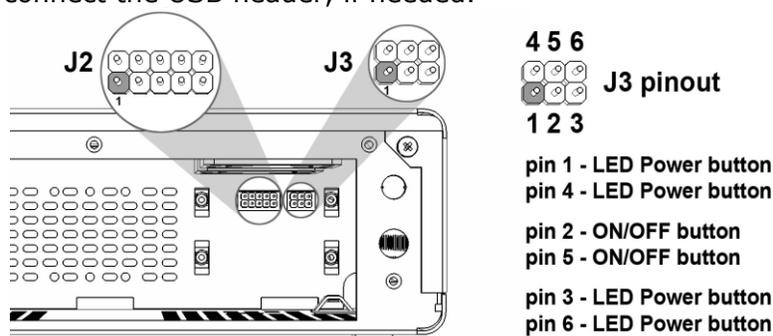

Figure 28. J2 (USB Header) and J3 (2x3) pin header, view from the back of Enclosure
4. Connect the ON/OFF and Power LED cables (J3 in Figure 28) to the motherboard using the cable harness provided with the enclosure, see Figure 28. Also, you can connect the USB header (J2 in Figure 28), if needed. Connect the ON/OFF and Power LED cables (J3 in Figure 28) to the motherboard using the cable harness provided with the enclosure. Also, you can connect the USB header, if needed.